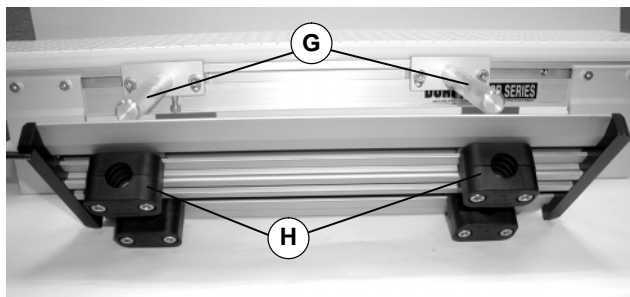

Figure 8
- Space clamps (H of Figure 8) same distance apart as support bars (G).